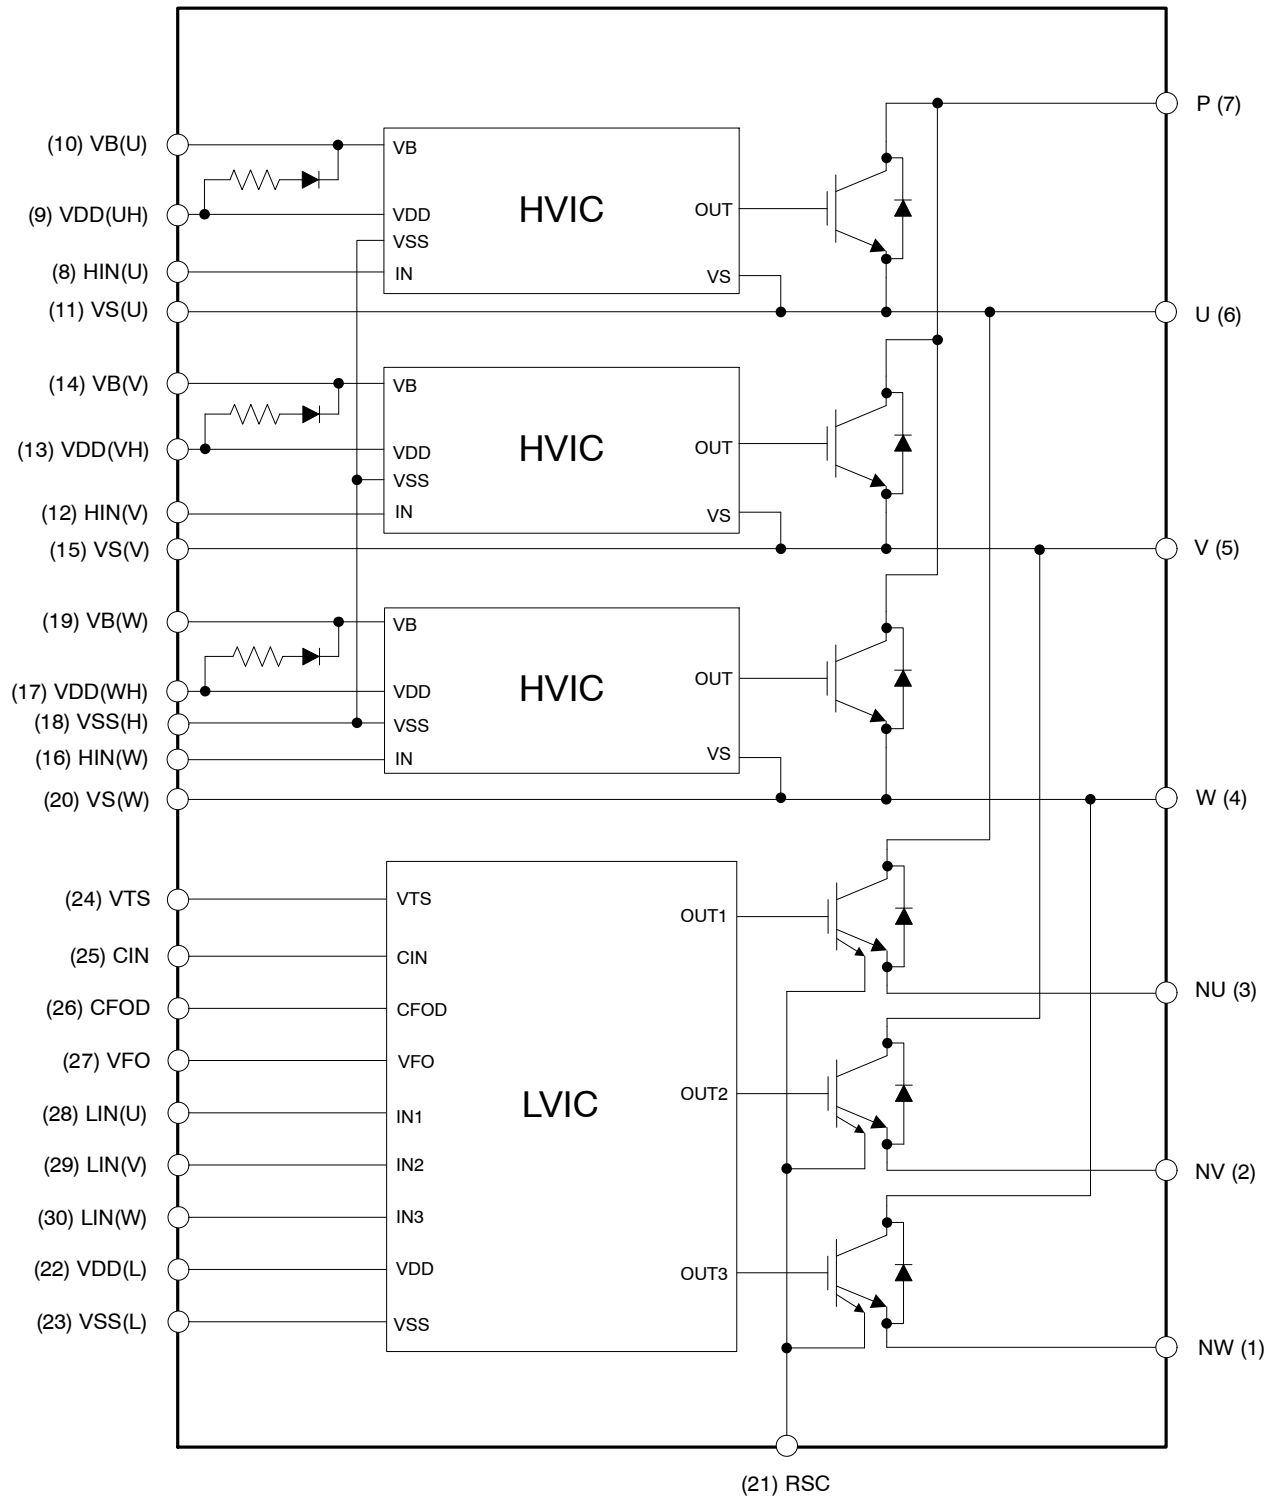

Figure 2. Internal Block Diagram
- 650 V – 50 A IGBT Inverter for Three-Phase DC/AC Power Conversion (Refer to Figure 2)